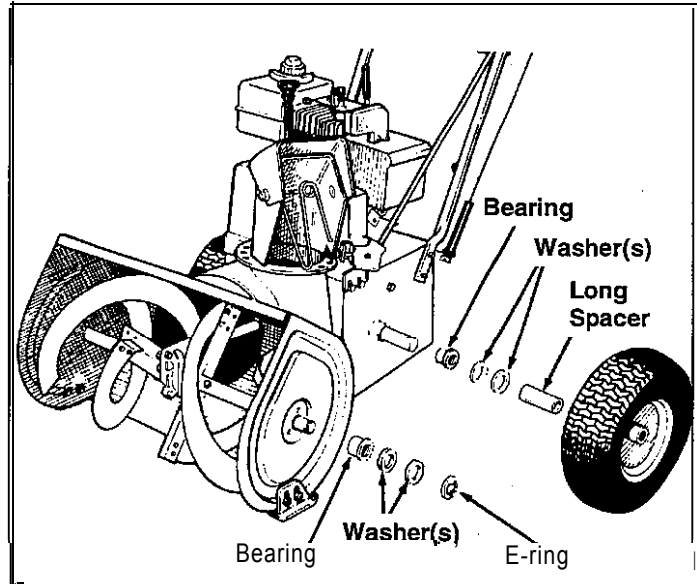

Figure 16. Wheel and Auger Bearings
3. See figure 16. Remove the ring pin and wheel from each axle.
1. Pry off the E-ring (figure 16).